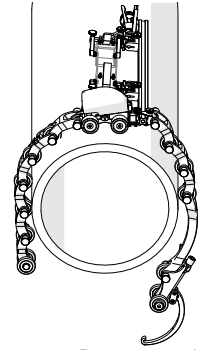

Fig. 18 - Drape onto pipe
5. Drape the configured assembly around pipe that will be inspected (Fig. 18).